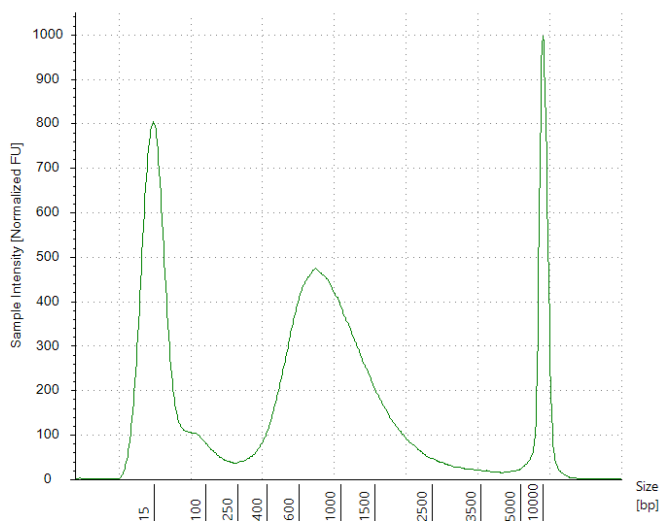

Figure 4: Typical size distribution of purified cDNA (obtained using Agilent TapeStation High sensitivity D5000).
For controlling sample quality, we recommend running your amplified barcoded DNA on Agilent TapeStation to control for amplified DNA size distribution. If the DNA concentration measured by Qubit is above the detection limit of a High Sensitivity (HS) D5000 ScreenTape (from 10 to 1,000 pg/μL), we recommend using a sample fraction to prepare a dilution compatible with the HSD5000 ScreenTape. Typical profile shows a distribution ranging from 250 to 3000 bp, centered around 600-900 bp (See **Figure 4**).